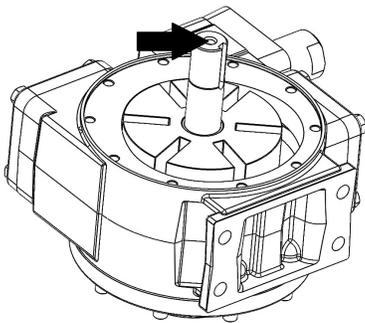
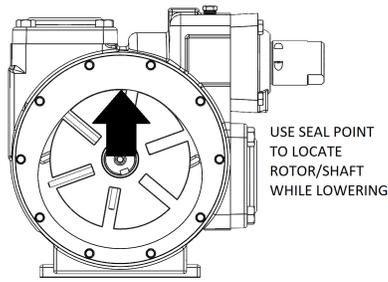

Figure 8 – Location of Rotor/Shaft Lifting Lug
Figure 11 – Rotor/Shaft Installation Tip
- Remove the valve cap (1) turn the adjusting screw (2) to relieve the spring pressure.
- Remove the relief cover capscrews (5) and relief valve cover (4)
- Remove the spring guide (7), spring (8), and valve (9) from the relief valve bore.
- Remove driven magnet assembly (52) and key (35A). Set driven magnet assembly on a nonmagnetic surface, away from any magnetic components.
- Slide inboard head (20) up wet end shaft (13) and set aside. Head may require light prying around outer diameter, if it is difficult to remove. Remove and discard o-ring (72).
- Remove vanes (14). And inspect for wear.
- Carefully remove rotor/shaft (13) from the pump cylinder. A lifting lug (5/16-18 UNC thread) can be installed in the end of the rotor/shaft to aid in removal. See Figure 8. Ensure that rotor/shaft isn't damaged and that it doesn't damage the cylinder, bushing, or head.
5. Install a new bearing cover o-ring (26) in the groove in the outboard head. Place the bearing cover (27) on the head. Lubricate the bearing cover capscrews (28) with a quality grade of anti-seize compound and install. Torque to the correct specification.
7. Inspect the vanes (14) and push rods (77) for wear and damage, and replace as follows:
- a. The push rods MUST be installed before installing the rotor and shaft (13) into the pump cylinder. To do so, hold the rotor and shaft vertical, with the non-driven (shorter end) down. See Figure 8 for optional location of lifting lug to aid in installation. Slide the push rods into the push rod holes of the rotor, then insert the rotor/shaft into the open end of the pump cylinder. See Figure 8 for optional location of lifting lug to aid in installation. Do not let rotor/shaft drop or damage bushing. Push rotor towards seal point, while lowering, to help guide the shaft into the bushing See Figure 11.